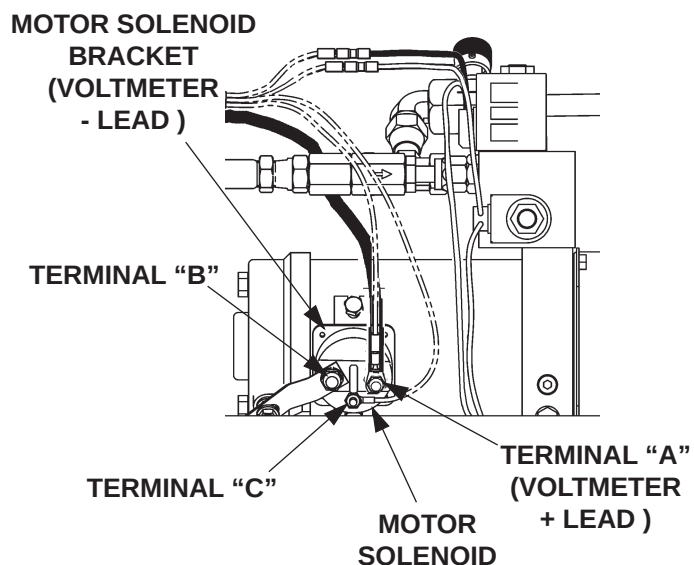

FIG. 48-1
1. Connect voltmeter between Motor Solenoid Terminal “A” and Bracket (**FIG. 48-1**) to verify that battery power is getting to “A”. Recharge the battery if voltmeter indicates less than 12.6 Volts DC.
3. Touch a jumper wire to terminals “A” & “C” (**FIG. 48-1**). If motor runs check Switch, the switch connections, and White wire. Check and correct wiring connections or replace the Switch.
4. Touch heavy jumper cables to terminals “A” & “B” (**FIG. 48-1**).